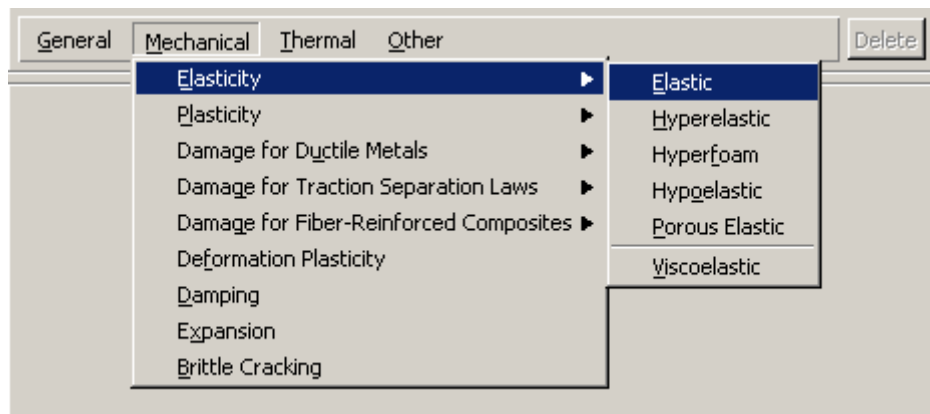

Figure W-17 Pull-down menu.
3. From the material editor's menu bar, select **Mechanical**→**Elasticity**→**Elastic**, as shown in Figure W-17.